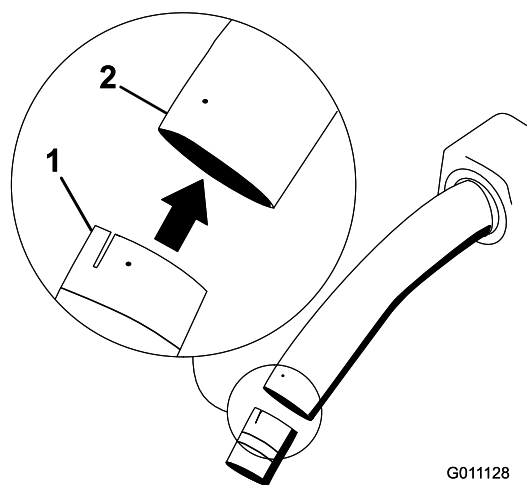

Figure 25
8. Install the middle and lower tube assembly into the upper tube (Figure 25).